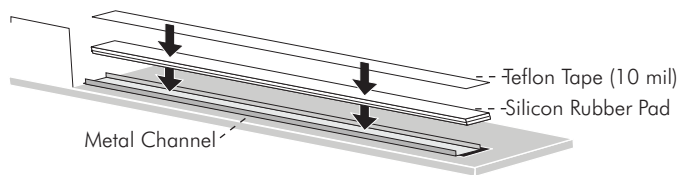

FIGURE 1
2. Apply Teflon tape (10 mil) to top of silicone rubber pad. (See Figure 1.)